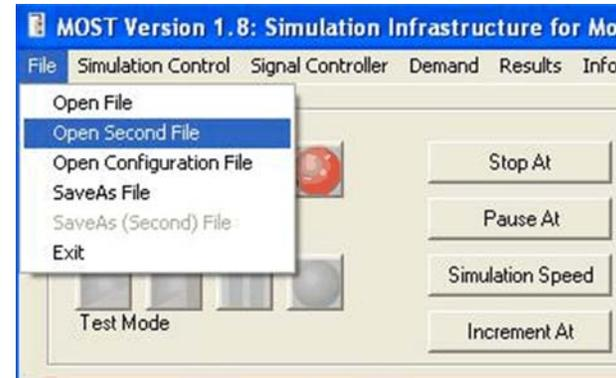

Figure 7 File menu with "Open Second File" highlighted
- Open the second file using the "Open Second File" command (see Figure 7): "lab1-exp2-2.inp."